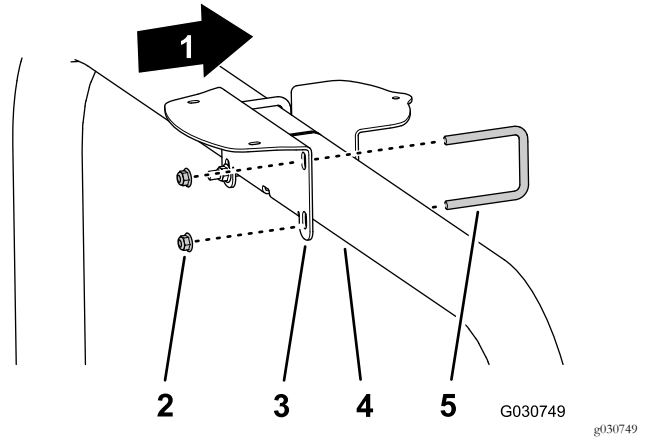

Figure 143
- If your machine is configured with global navigation satellite system (GNSS) with wide area augmentation system (WAAS), assemble the receiver mount to the ROPS tube (Figure 143) with the 2 U-bolts and 4 flange locknuts (3/8 inch).